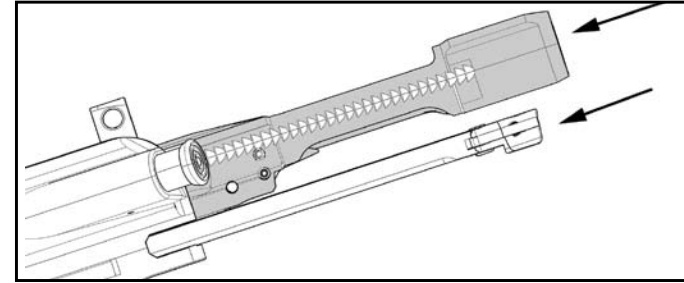

Fig. 49 – Installing the bolt assembly into the upper receiver
- i. With the upper receiver and charging handle upside down, install the bolt assembly onto the bottom of the charging handle ensuring that the bolt carrier's anvil and the top of the cam pin are centered in the bottom cavity of the charging handle (Fig.49).